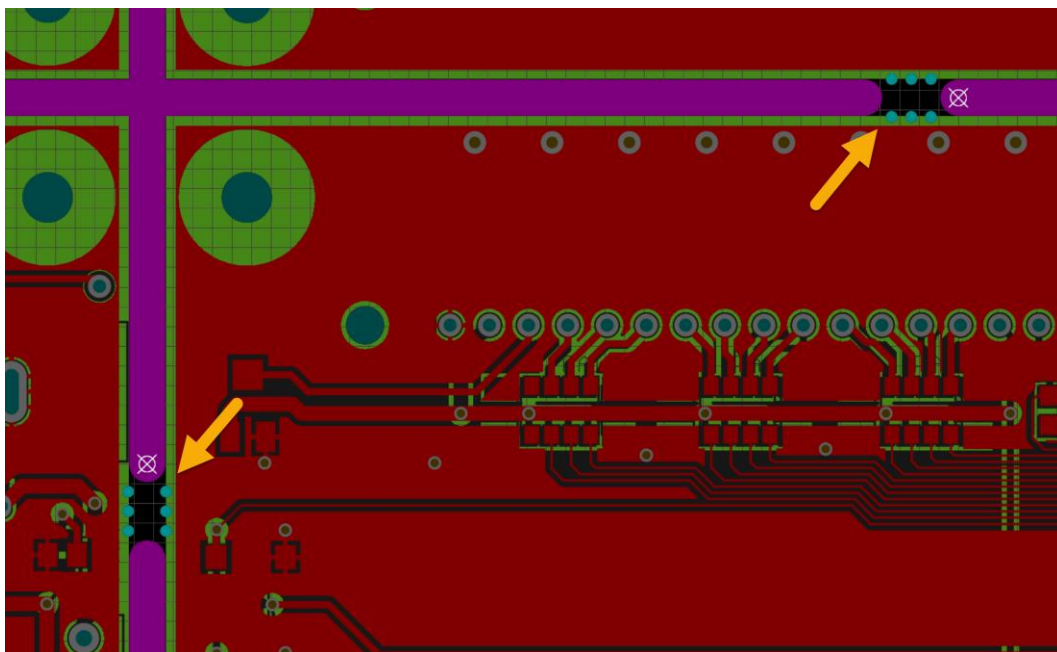

Figure 24. Placement of breakout footprints, snapping reference to track ends
55. With the footprint on your cursor, place it on one of the voids on the inner route tool path, as shown in Figure 24.